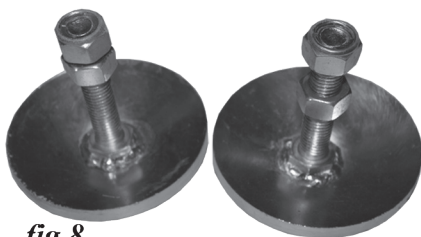

fig.8
5. If not already done, thread an M18 nut onto the shaft of each skid shoe (fig.8).